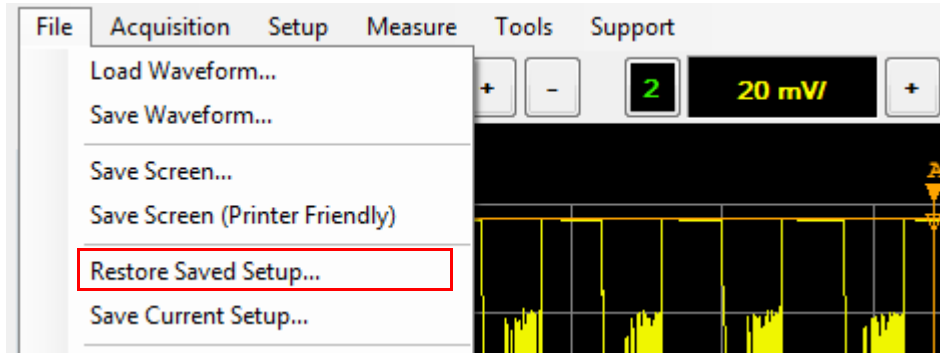

Figure 2-147 Restore Saved Setup... selection in the File menu
- 1 Select **File > Restore Saved Setup...** on the toolbar to load a saved 8990B state from an XML file as shown in Figure 2-147.